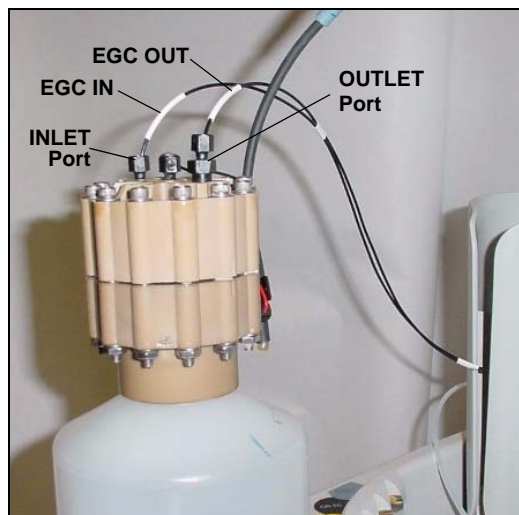

Figure 5-38. Disconnect the EluGen Cartridge Inlet and Outlet Port Lines
8. Disconnect the **EGC IN** and **EGC OUT** lines from the **INLET** and **OUTLET** ports on the EluGen cartridge (see Figure 5-38).